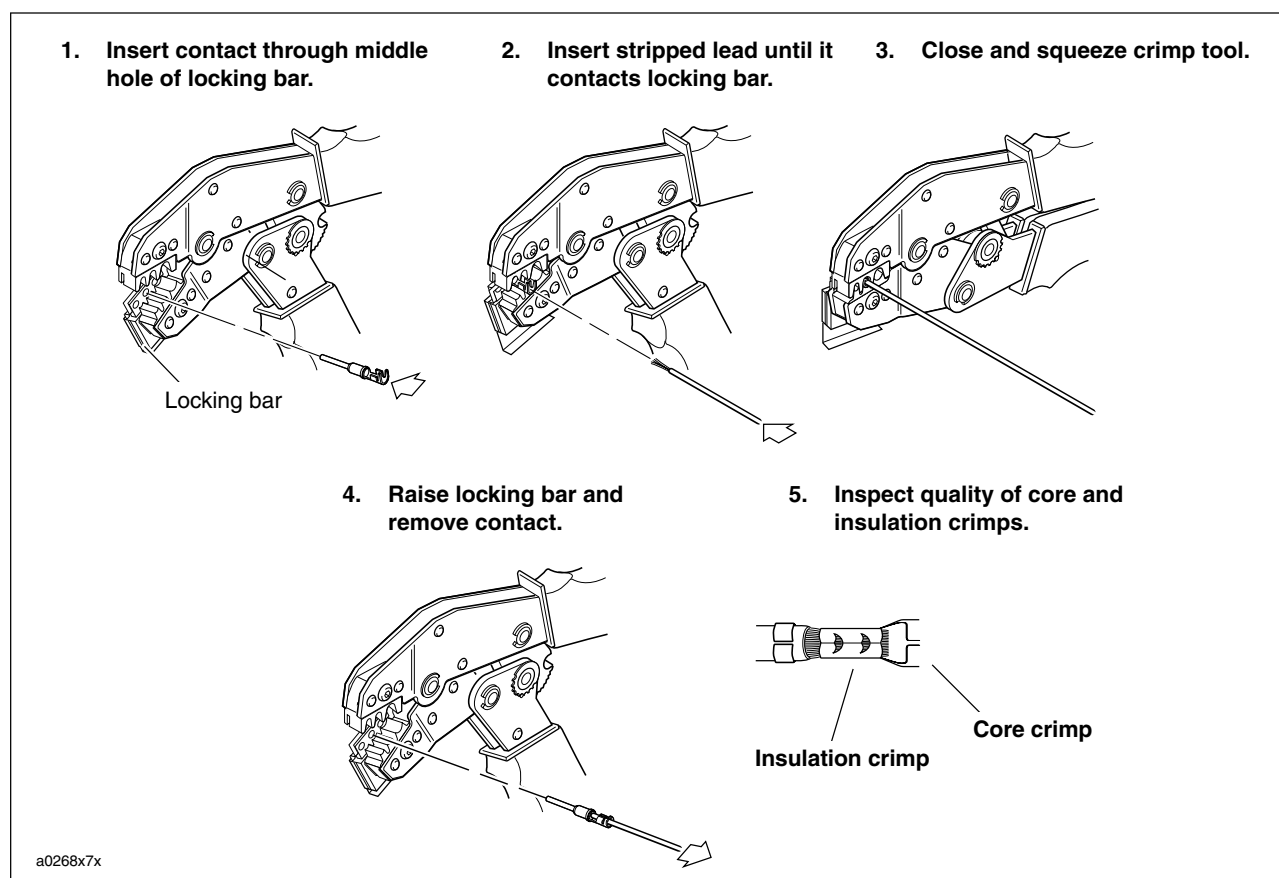

Figure B-3. Deutsch Crimping Procedure
1. See Figure B-3. Squeeze the handles to cycle the DEUTSCH TERMINAL CRIMP TOOL (Part No. HD-39965) to the fully open position.